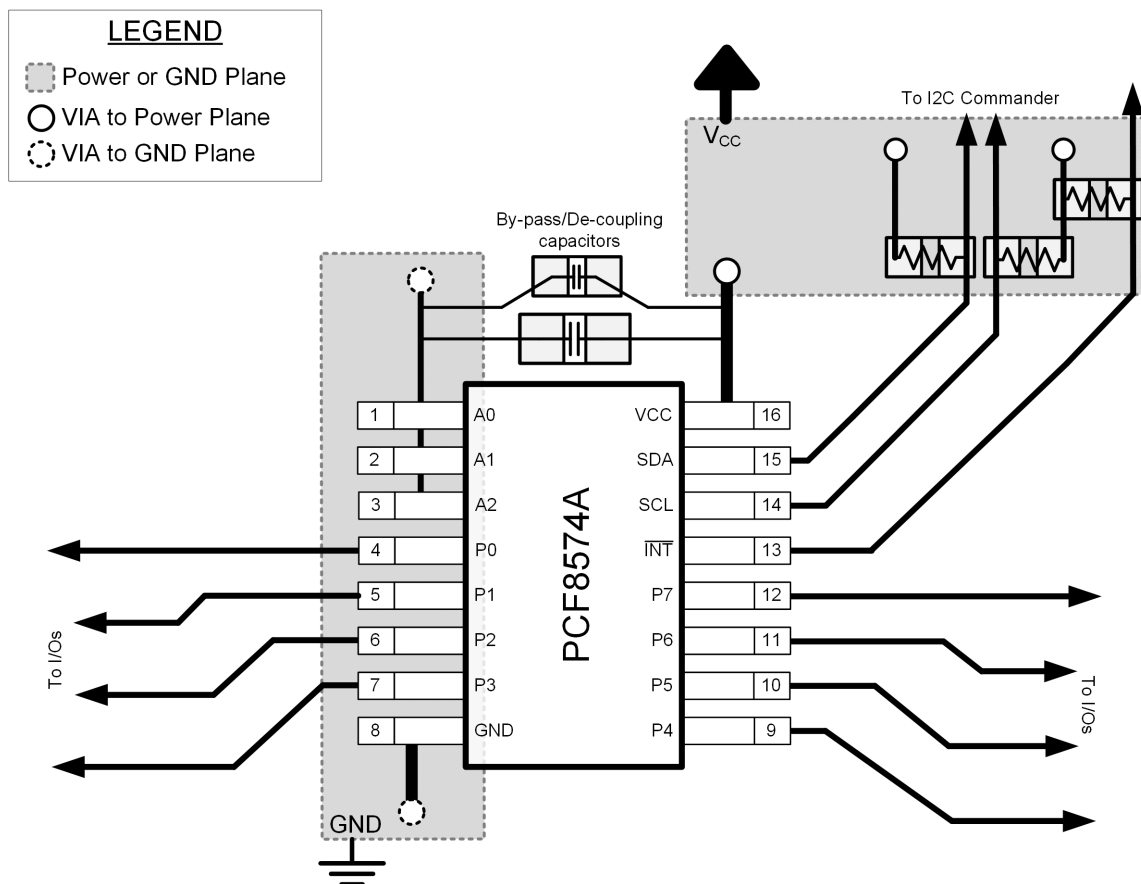

Figure 8-10. Layout Example for PCF8574A
When the I/Os are used to control LEDs, normally they are connected to  $V_{CC}$  through a resistor as shown in Figure 8-10. For a P-port configured as an input,  $I_{CC}$  increases as  $V_I$  becomes lower than  $V_{CC}$ . The LED is a diode, with threshold voltage  $V_T$ , and when a P-port is configured as an input the LED will be off but  $V_I$  is a  $V_T$  drop below  $V_{CC}$ .
In all PCB layouts, it is a best practice to avoid right angles in signal traces, to fan out signal traces away from each other upon leaving the vicinity of an integrated circuit (IC), and to use thicker trace widths to carry higher amounts of current that commonly pass through power and ground traces. By-pass and de-coupling capacitors are commonly used to control the voltage on the  $V_{CC}$  pin, using a larger capacitor to provide additional power in the event of a short power supply glitch and a smaller capacitor to filter out high-frequency ripple. These capacitors should be placed as close to the PCF8574A device as possible. These best practices are shown in Figure 8-10.
For the layout example provided in Figure 8-10, it would be possible to fabricate a PCB with only 2 layers by using the top layer for signal routing and the bottom layer as a split plane for power ( $V_{CC}$ ) and ground (GND). However, a 4 layer board is preferable for boards with higher density signal routing. On a 4 layer PCB, it is common to route signals on the top and bottom layer, dedicate one internal layer to a ground plane, and dedicate the other internal layer to a power plane. In a board layout using planes or split planes for power and ground, vias are placed directly next to the surface mount component pad which needs to attach to  $V_{CC}$  or GND and the via is connected electrically to the internal layer or the other side of the board. Vias are also used when a signal trace needs to be routed to the opposite side of the board, but this technique is not demonstrated in Figure 8-10.